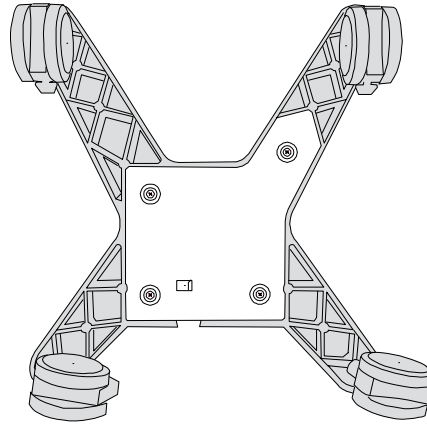

Figure 3 Turn base over.
- 2 Turn the base over for access to the plate on the bottom. See Figure 3.